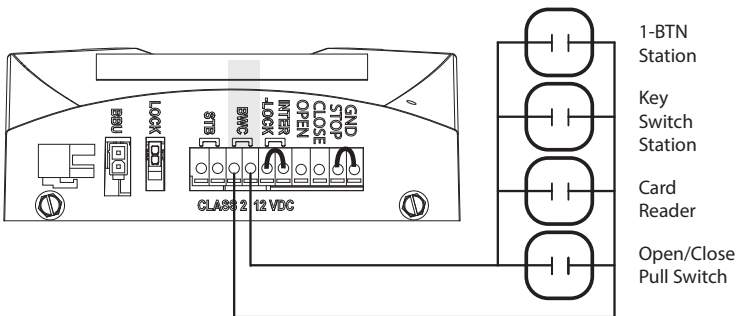

Fig. 2
6. Plug sensors into back of fixtures. Fig. 2.
7. Press wire into channel cut into back of fixture. Fig. 2
8. Slide fixture onto mounting bracket and insert carriage bolt, washer, and wing nut loosely. Fig. 2
2. For single button accessory controls, make connections as shown in Fig. 2.